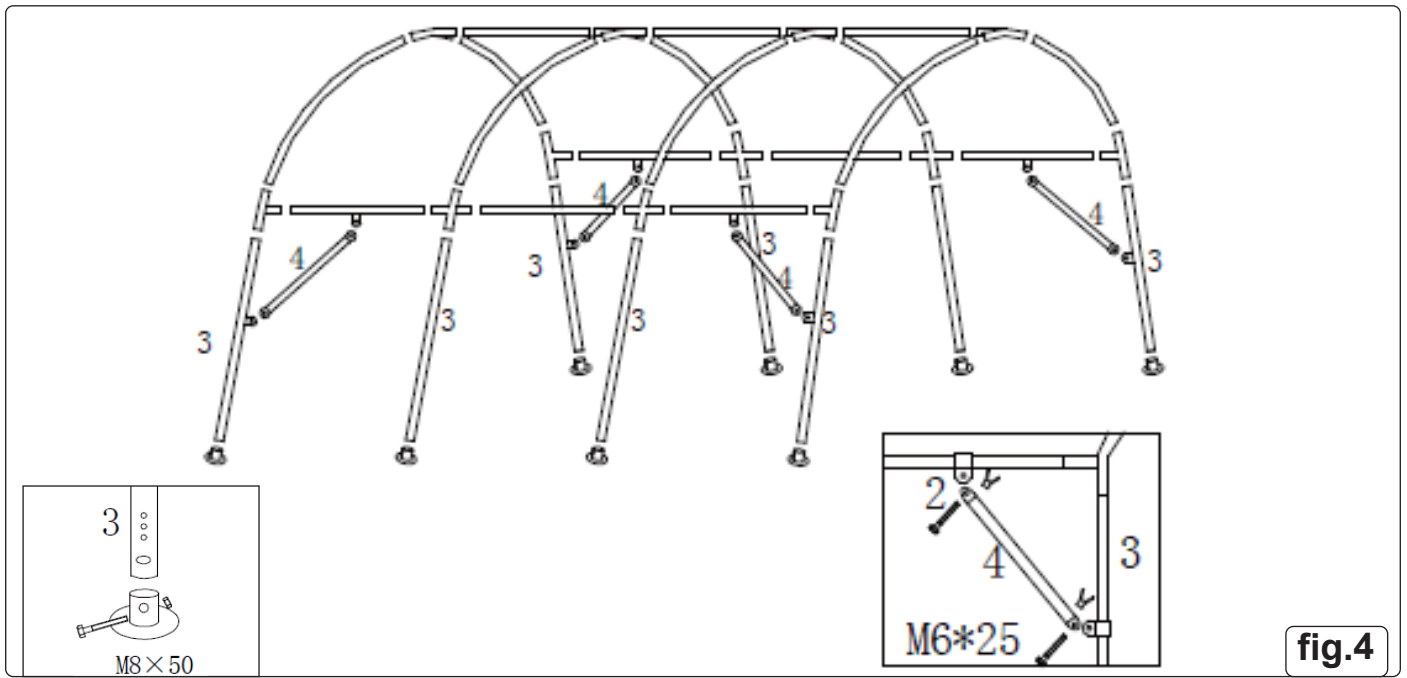

fig.4
4.2.2. Refer to fig.4, to fit the legs (3) making sure that the hole drilled through the leg, goes at the bottom.